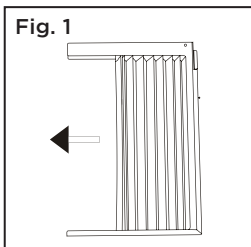

Fig. 1
- A. Hold the side panel in one hand and gently pull back the center to free the open end. See Fig. 1.